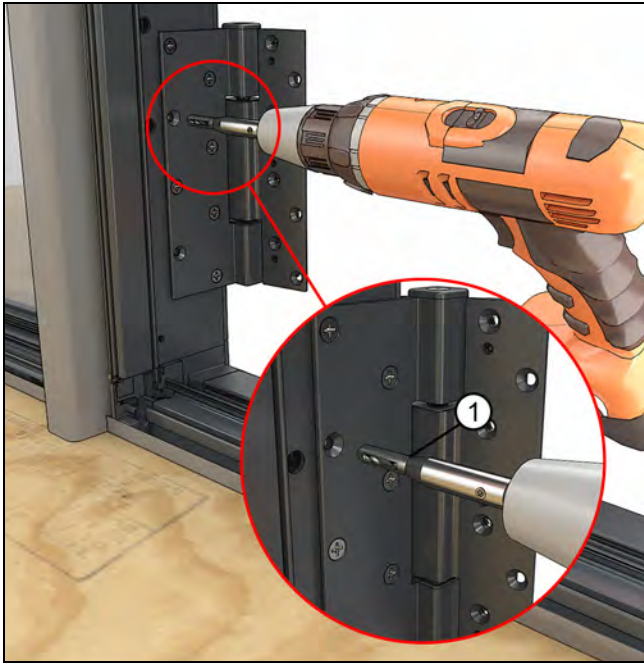

Figure 239 Pre-drill Hinges
21. Using the hardware holes as a guide, drill into the steel with the appropriate bit. Use the table in step 12 on page 62 for reference. See Figure 239.